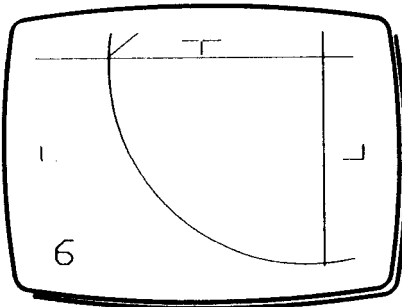

Fig 7
- 5 **Move XY** to move the centre of the cursor to the top centre of the screen, (6) in Fig 7.